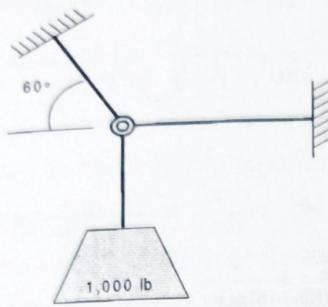

Fig 2.14
- 2) Draw a Free Body Diagram for given fig 2.14